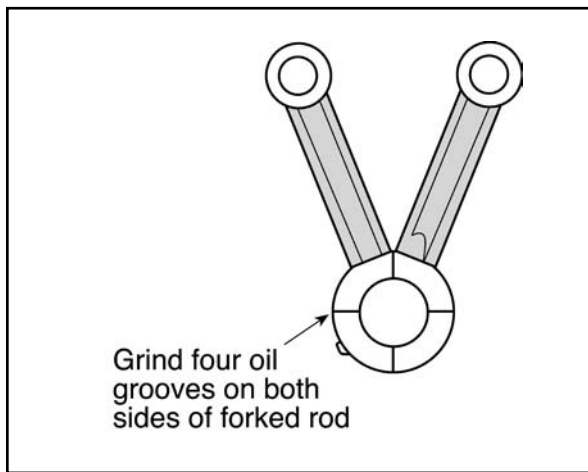

Figure 2
- A. To insure adequate oil on sides of rods and matching thrust surfaces of flywheels, S&S recommends that four grooves be ground on each side of both front and rear connecting rods. **See Figure 2.** Make these grooves .020" to .030" deep and .030" to .040" wide and should be ground 90° from each other. After making grooves, remove all sharp edges and burrs with emery cloth.